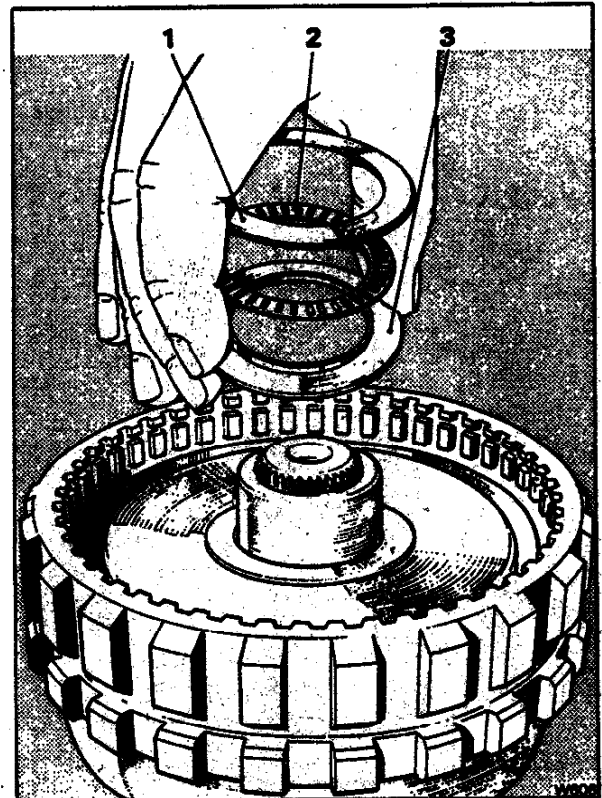

Fig. T119 Fitting the races and thrust bearing to the outer face of the rear internal gear
9. Fit the races and thrust bearing onto the outer face of the rear internal gear, retaining them with a smear of petroleum jelly. The small diameter (flanged I/D) race must be fitted first with the flange uppermost (see Fig. T119).